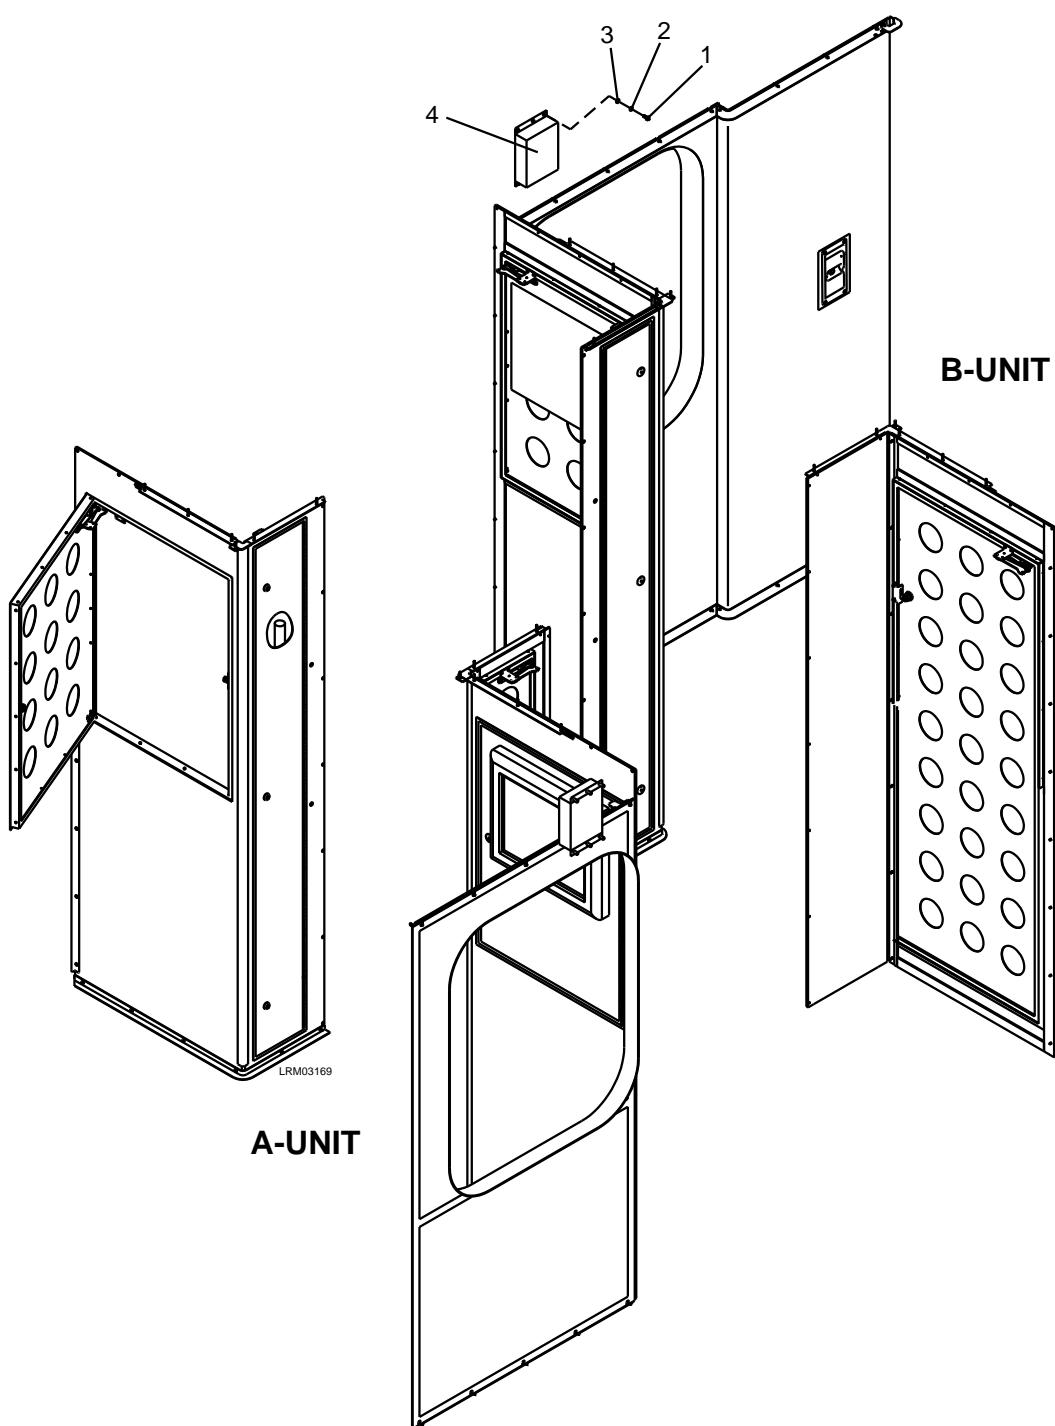

Figure 7-91: APC Analyzer
2. Disconnect the electrical connectors from the APC Analyzer (4). See Figure 7-91.
3. Remove the six M4 x 12 bolts (1), M4 lock washers (2) and M4 plain washers (3).
4. Remove the APC Analyzer (4).